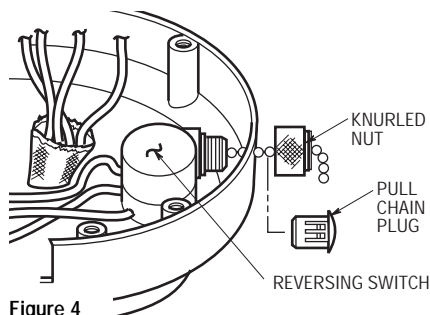

Figure 4
- 5. For Ceiling Fan Models F2100, F2200 and CF2300 Only.** Remove the knurled nut securing the reversing switch to the switch housing (Figure 4).